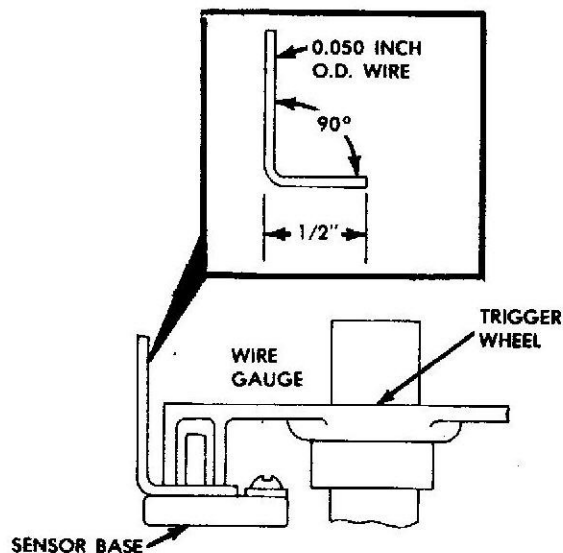

Fig. 4 Trigger Wheel Clearance
(17) Bend 0.050 inch OD wire gauge (contained in kit) as illustrated in figure 4.
(18) Check clearance between trigger wheel and sensor base using 0.050 inch OD wire gauge. Trigger wheel should just touch wire gauge (fig. 4).